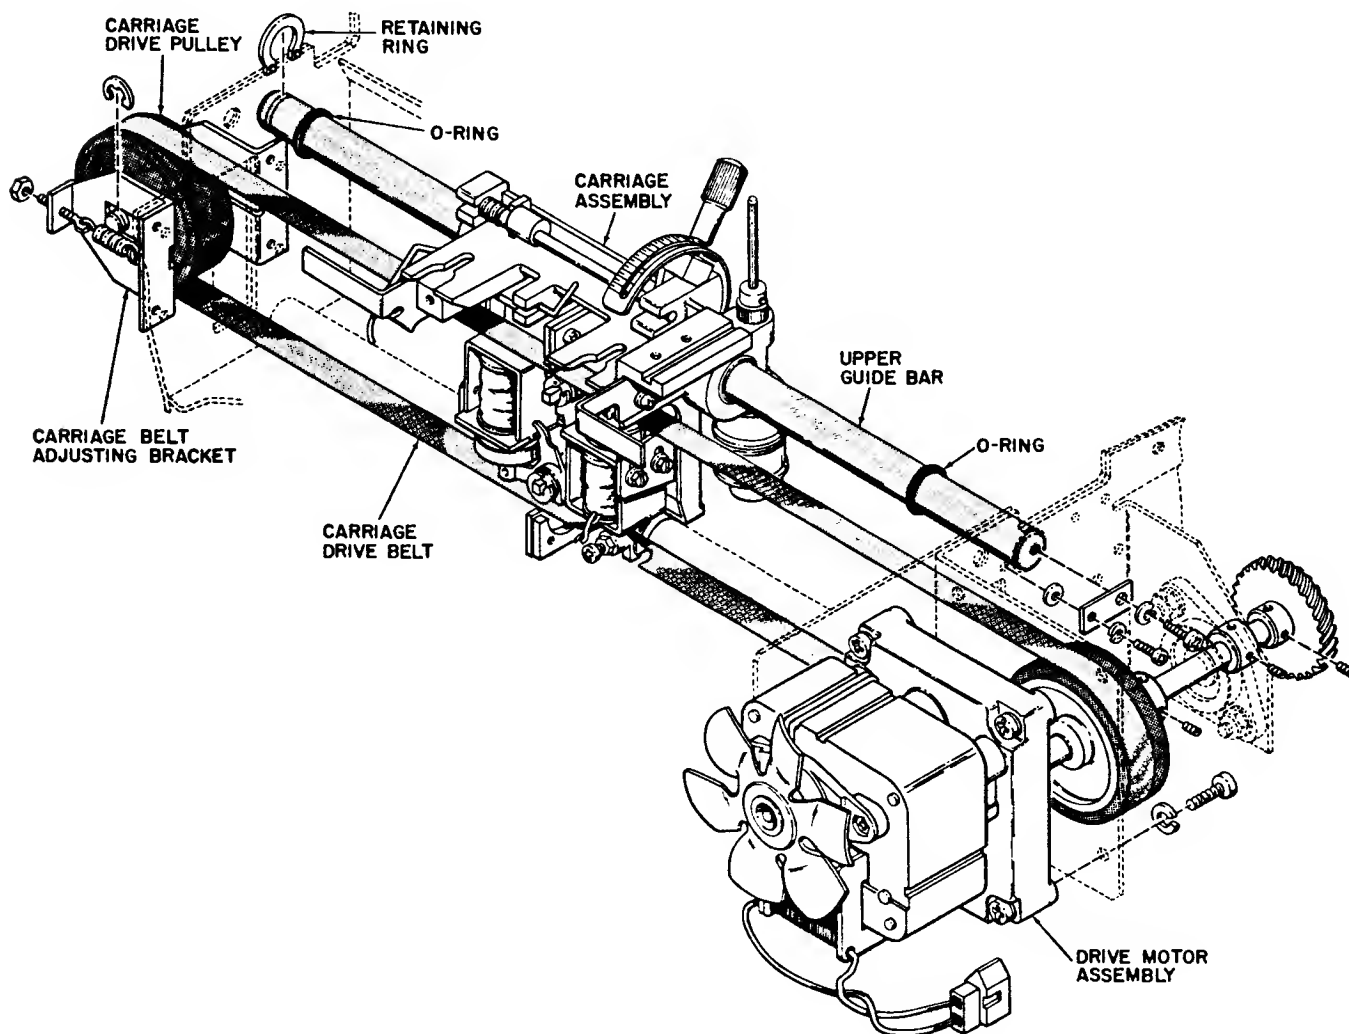

Figure 3-4. CARRIAGE ASSEMBLY, REMOVAL/REPLACEMENT
3.7 CARRIAGE ASSEMBLY (Figure 3-4)